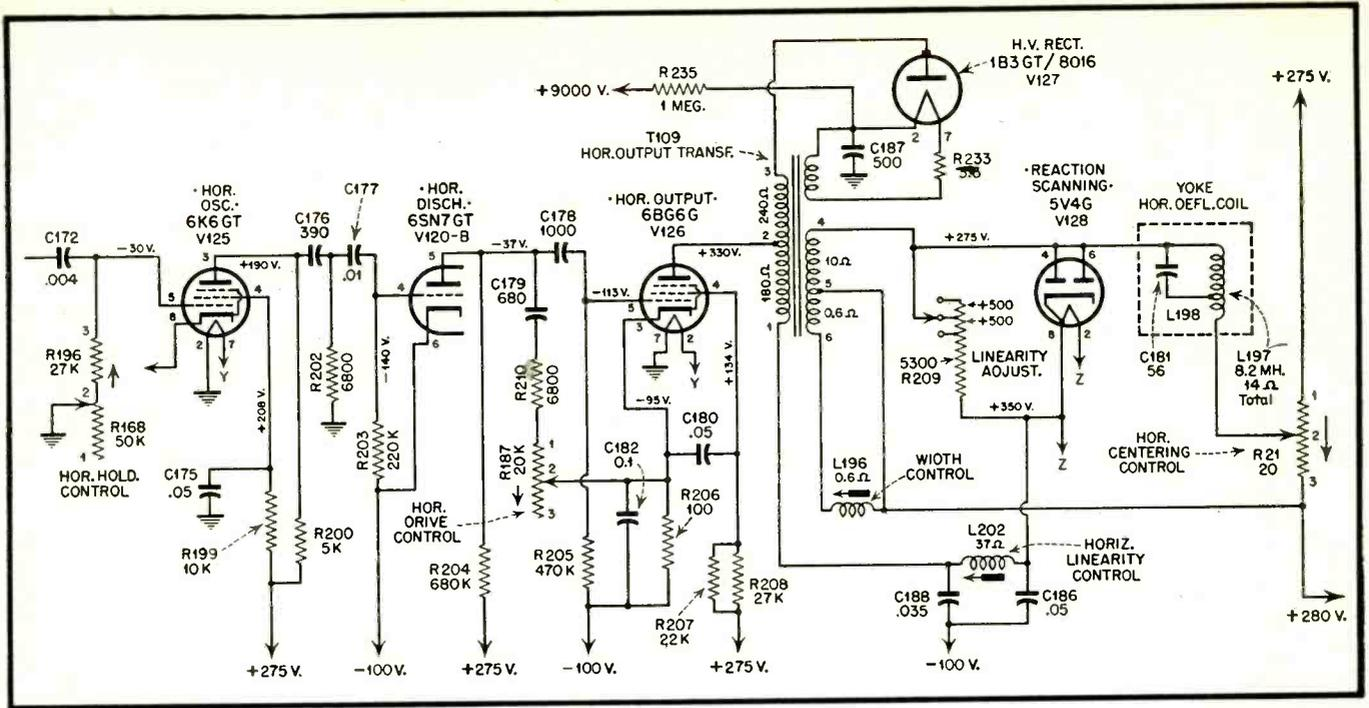

Fig. 1. Partial schematic of horizontal sweep and high voltage RCA 630TS
The schematic of the set was referred to: *Fig. 1*
4. Voltage readings were taken around the Horizontal Discharge tube circuit, V120-B, 6SN7GT, with a VTVM. The following readings were noted: (and compared to values on schematic—Fig. 1 (B+ = normal)
These readings can be checked against schematic—Fig. 1.
In normal operation, when brilliance is turned all the way up, picture blooms (expands) as it brightens. This is due to more current through the CRT because of reduced bias; more current through the large filter resistor, (R-235, Fig. 1) 1 megohm, in the high voltage system reduces the high voltage; sweep currents through the deflection coils therefore have more effect on the slower moving beam; and since deflection sensitivity is increased, the picture is larger. In this case, increasing the brightness control beyond the one critical point produced more current through the CRT and evidently reduced the already low high voltage to the point where there was no visibility.